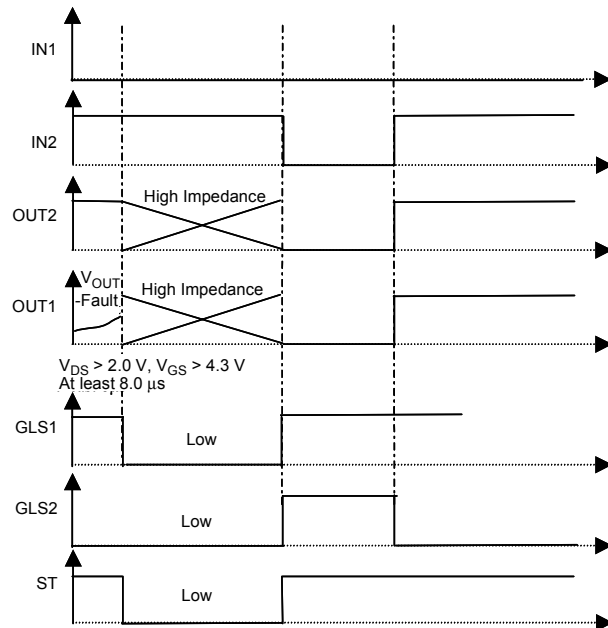

Figure 22. Overload on Low-Side 1
- When a short to V_{BAT} of one of the low-side MOSFETs occurs, both outputs are opened to prevent the motor from running. Once the low-side overcurrent is removed, the input INn of the output that experienced the fault must be reset in order to recover the normal operation mode. Figure 22. Overload on Low-Side 1, page 18, shows an example. If an overload happens in low-side 1, $OUT1$ and $OUT2$ are both put in high impedance. $IN2$ must be reset to recover normal mode.